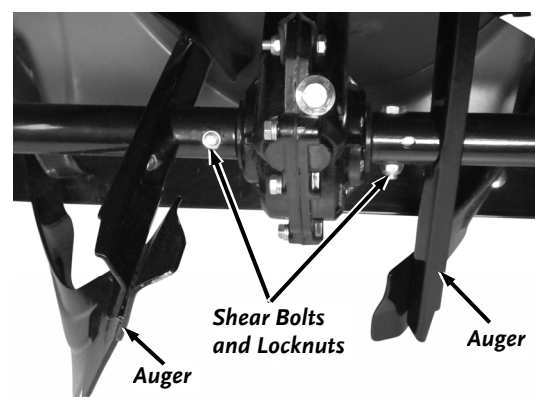

Figure 39
1. Remove the Shear Bolt and Locknut using two 13mm Wrenches (**Figure 39**).